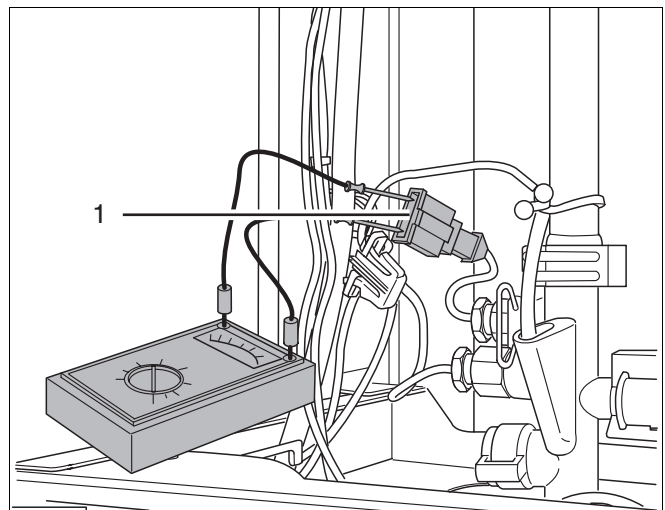

Fig. 51 Buderus 600 - 11R / 19R / 24R:
- Measure resistance of sensor (fig. 51, item 1).